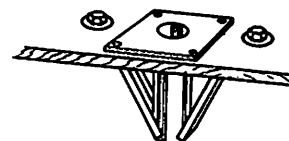

Fig. 2. Platform or Dock
8. Install well for stationary loading platform or dock by following the same procedure as outlined for trucks, with bracing modified according to structure of platform or dock as shown in Fig. 2.